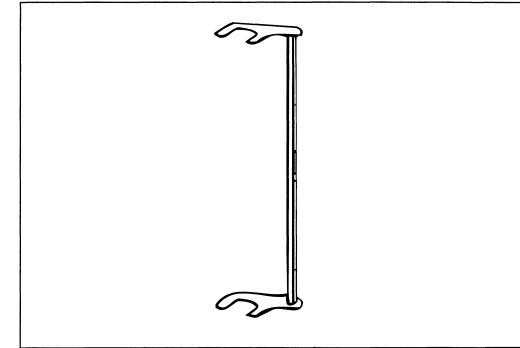

FIG. 4
2. Jacobs feeler gage, P/N 017685, has 0.023” feeler stock on both ends. One end can be used on cylinders 1, 3 and 5; the other end can be used for cylinders 2, 4 and 6. (see Figs. 4 and 5).